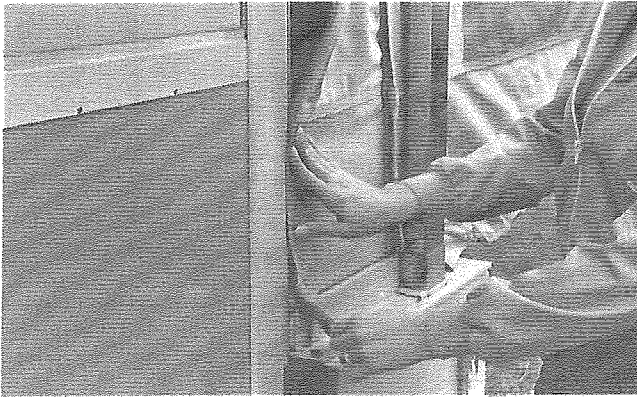

FIG. 26 - Screen Door Velcro Fasteners
15. Step outside the trailer. Begin at the top of the doorframe and carefully pull the canvas weatherseal, on either side of the doorframe, from the weatherseal groove attached to the doorframe. Unfasten canvas velcro patches from door jamb and body rail. (See Fig. 26)